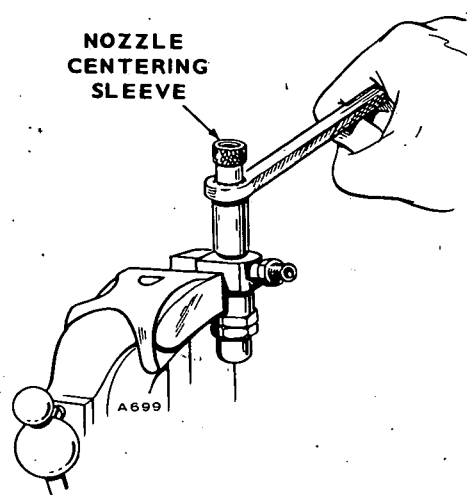

FIGURE 23. TIGHTENING NOZZLE CAP
5. Place the centering sleeve over the nozzle (Figure 23) for initial tightening. Then remove the centering sleeve to prevent it from binding between nozzle and cap nut and tighten the nozzle cap nut to specified torque.